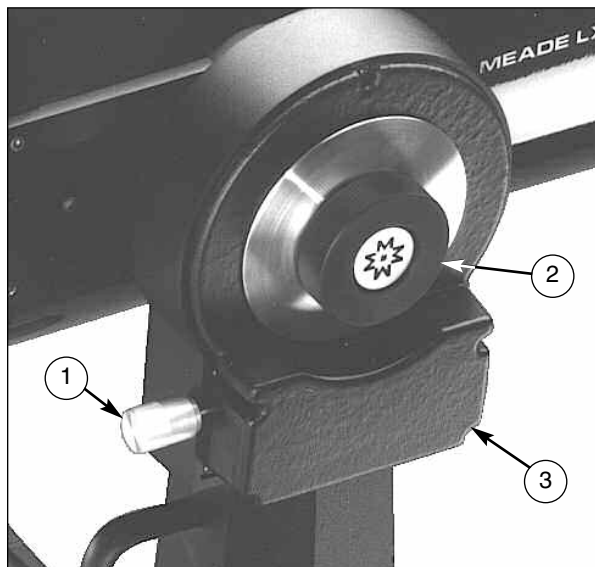

Fig. 4: LX200 Declination (Vertical) System. (1) Manual Slow-Motion Control Knob; (2) Declination Lock Knob; (3) Declination Worm Gear Cover.
CAUTION: Serious damage to the drive gears may result from shock in handling, while transporting or commercially shipping the LX200, should the R.A. lock (7, Fig. 1), and/or the Dec. lock (2, Fig. 4) be left engaged. Always release the locks when storing in the case, or when crating for commercial shipment to allow the telescope to give, if the case or crate is sharply jarred or dropped.
3. When packaging the 10" or 12" LX200, be sure to release the R.A. lock (7, Fig. 1), and Dec. lock (2, Fig. 4), to prevent shock to the gears in the motor assemblies should the package suffer severe handling.
Releasing the Declination lock knob (2, Fig. 4), permits sweeping the telescope rapidly through wide angles in Declination.
To use the Declination fine-adjust, or manual slow-motion knob, lock the telescope in Declination using the Declination lock knob (2, Fig. 4), and turn the Declination slow-motion knob (1, Fig. 4).
Unlock the Declination lock knob (2, Fig. 4), and R.A. lock (7, Fig. 1), center the object in the telescopic field of view and then re-lock the Dec. and R.A. locks. Precise image centering is accomplished by using the Dec. and R.A. slow-motion controls.
- a. Loosen the Dec. lock knob (2, Fig. 4) and position the optical tube approximately level, so that the Dec. setting circle (3, Fig. 1) reads 0°. Retighten the Dec. lock knob.
The LX200 can also be moved manually with the R.A. and Dec. locks released, or as described above only. The Declination manual slow-motion knob (1, Fig.4) is non-functional when power is supplied to the telescope. When the power is "on", only use the N, S, E, and W keys on the keypad hand controller. Serious damage can occur to the internal gears of the motor assembly if the Declination manual slow-motion knob is turned even a slight amount by hand.